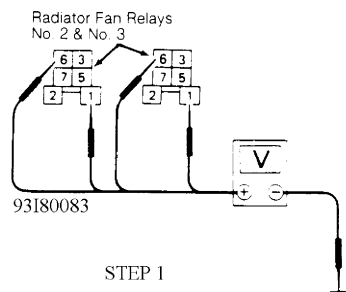

Fig. 40: Testing Fan High Speed Circuit (Maxima VE30DE, Step 1)
1) Turn ignition off. Disconnect radiator fan relay No. 2 and No. 3. See Figs. 40 and 41. Turn ignition on. Measure voltage between ground and radiator fan relay No. 2 and No. 3 harness connector terminals No. 1 (White/Red wire) and No. 6 (White/Blue wire). See Figs. 40 and 41. Battery voltage should be present. If battery voltage is present, go to step 3). If battery voltage is not present, go to next step.
3) Turn ignition off. Disconnect radiator fan motor No. 1 and radiator fan motor No. 2 harness connectors. Check continuity between radiator fan motor No. 1 harness connector terminal "b" (White/Yellow wire) and radiator fan relay No. 2 harness connector terminal No. 7 (White/Yellow wire). Check continuity between radiator fan motor No. 2 harness connector terminal "f" (White/Blue wire) and radiator fan relay No. 3 harness connector terminal No. 5 (White/Blue wire). See Figs. 40 and 41.
4) Check continuity between radiator fan motor No. 1 harness connector terminal "c" (White/Green wire) and radiator fan relay No. 2 harness connector No. 3 (White/Black wire). Check continuity between radiator fan motor No. 2 harness connector terminal "g" (White/Red wire) and radiator fan relay No. 2 harness connector No. 3 (White/Red wire). Check continuity between radiator fan relay No. 2 and No. 3 harness connector terminal No. 5 (Black wire) and ground. See Figs. 40 and 41. Continuity should exist in all checks. If continuity exists in all checks, go to next step. If continuity does not exist in any check, repair open in appropriate wire or connector.